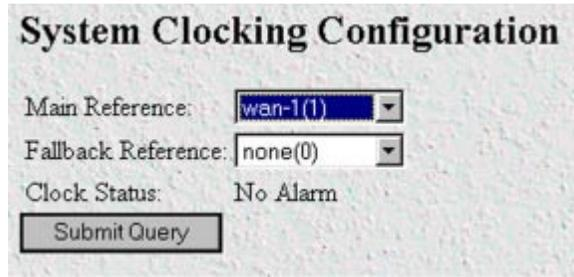

Figure 22. System Clocking Configuration window
2. Connect your T1/E1 Wan connection to Wan Port #1 through the WAN port cable of the 3095. Assuming this is the WAN link you wish to use as the Main Reference, set Main Reference to *wan-1(1)* (see figure 22).